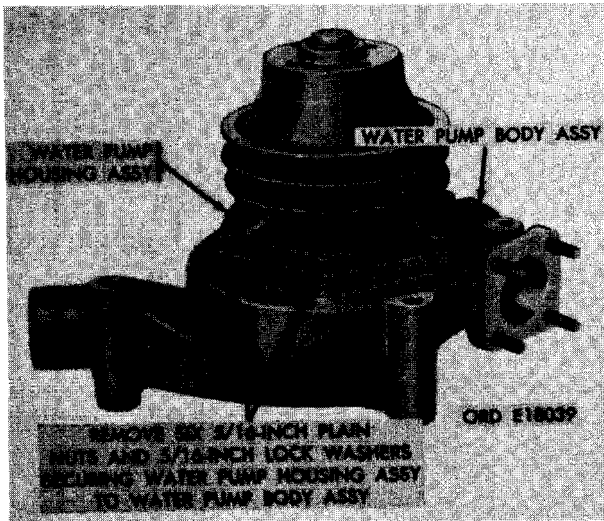

**FIGURE 115. DISCONNECTING OR CONNECTING WATER PUMP ASSEMBLY.**
- (4) Refer to figure 115 and disconnect water pump assembly.